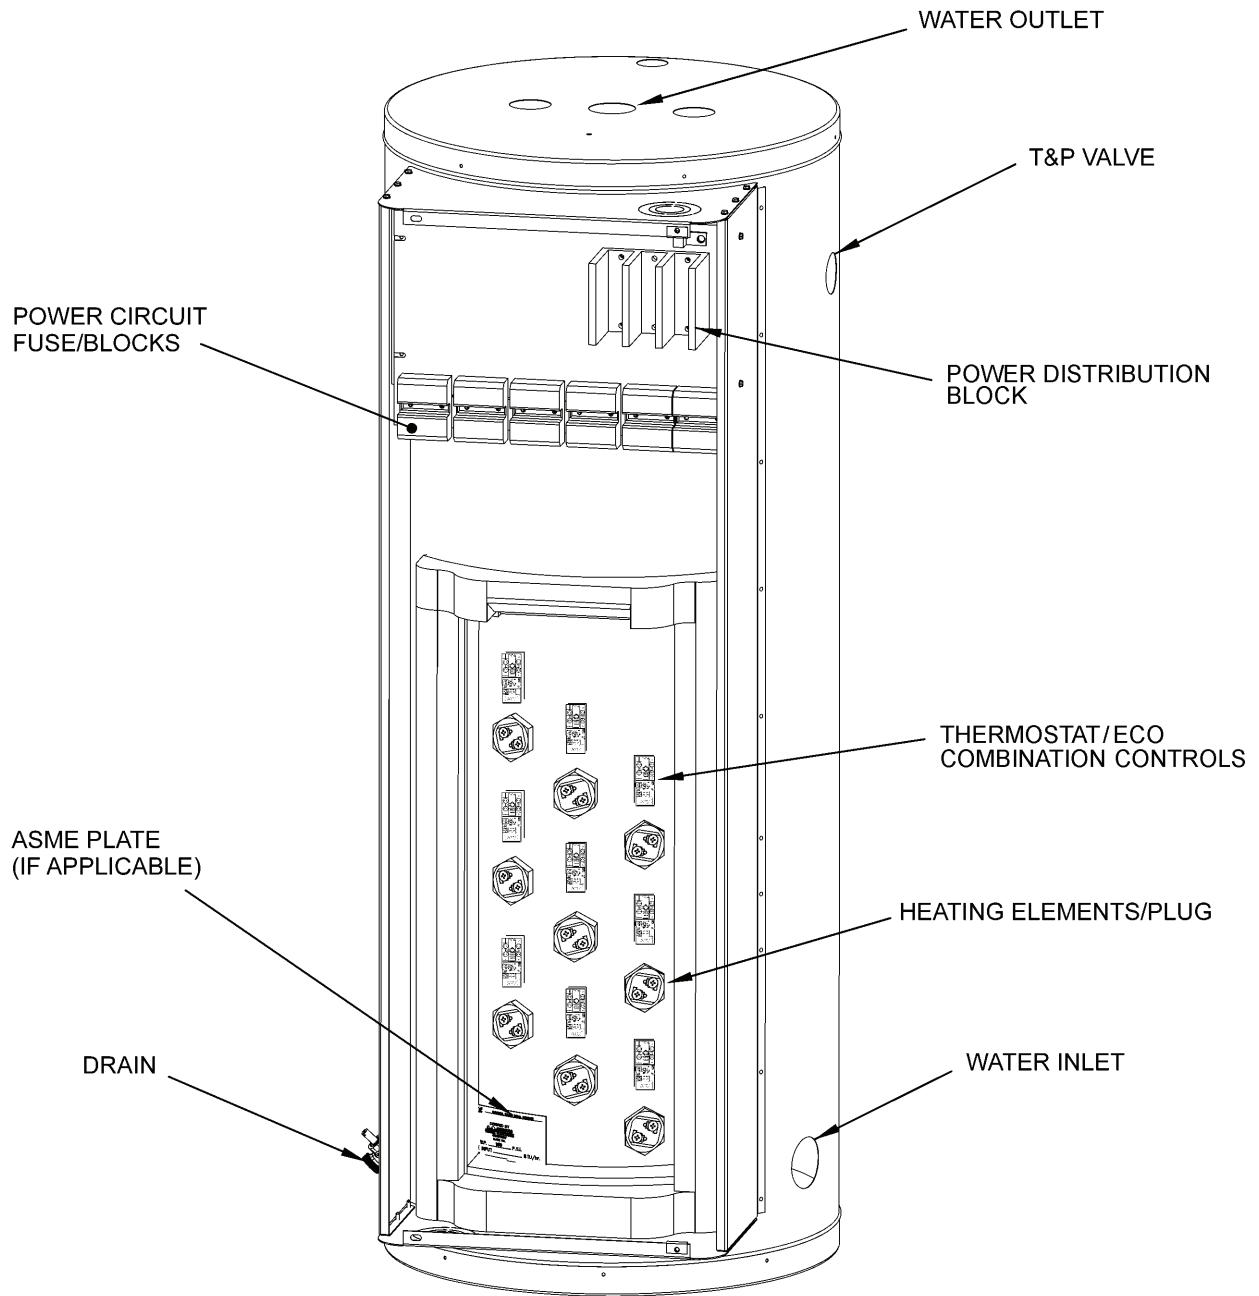
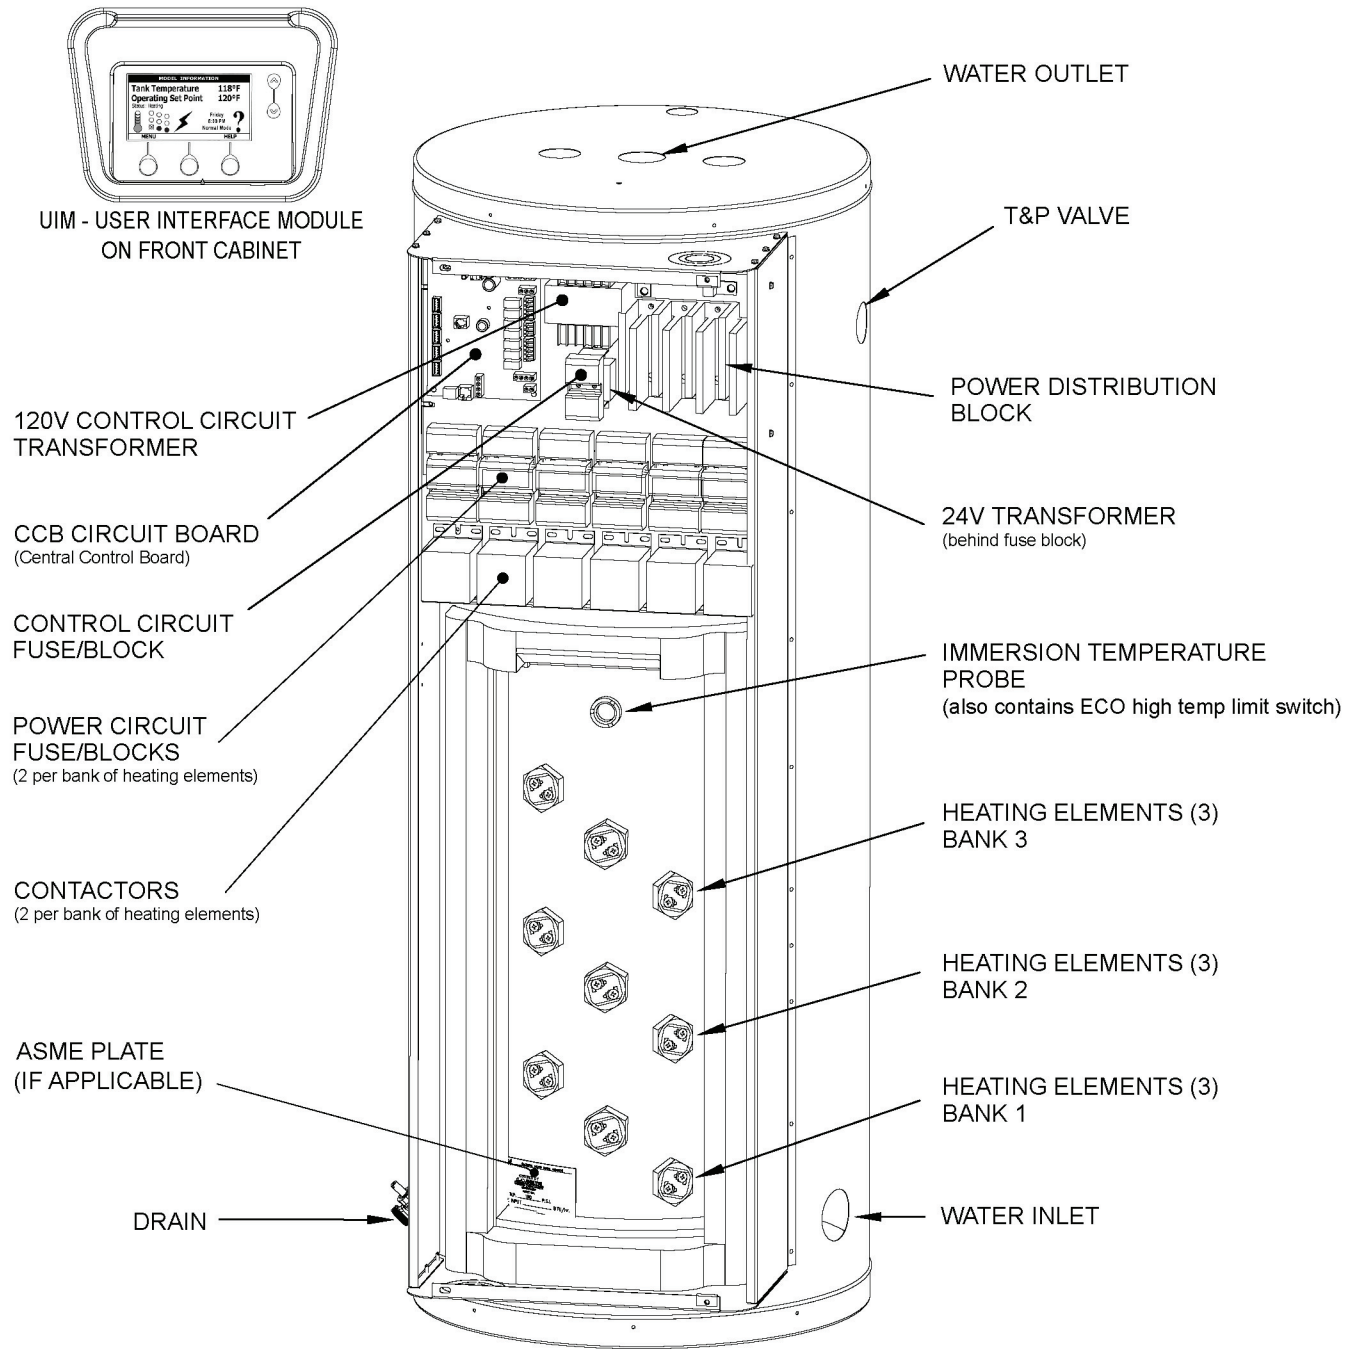

Figure 1
Figure 2
**Service Note:** Electronic Control Models (see Figure 2 on page 9) covered in this manual may experience erratic control operation if the water heater is not properly grounded.
There are two types of commercial electric water heaters covered in this manual. See Figure 1 on page 8 and Figure 2 on page 9.
Both types of water heaters covered in this manual are factory equipped with either 3, 6 or 9 heating elements depending on how they were ordered from the factory - see the Heating Element Configurations table on page 21. Each group of 3 heating elements (physically installed in diagonal rows of 3) is referred to as a "Bank" of heating elements. Bank 1 is the lowest group of 3 heating elements, Bank 2 is the middle group of 3 heating elements and Bank 3 is the upper group of 3 heating elements. See Figure 1 on page 8 and Figure 2 on page 9.
Internal wiring connections between the Power Distribution Block and the heating elements are different on Surface Mount Control (see Figure 1 page 8) and Electronic Control (see Figure 2 page 9) model water heaters. Because of these differences there are two methods for field converting these models to work with single and three phase power supplies.
(see Figure 1 on page 8)
Internal wiring connections between the Power Distribution Block and the heating elements is different on Surface Mount Control (see Figure 1 page 8) and Electronic Control (see Figure 2 page 9) model water heaters. Because of these differences there are two methods for field converting these models to work with single and three phase power supplies.